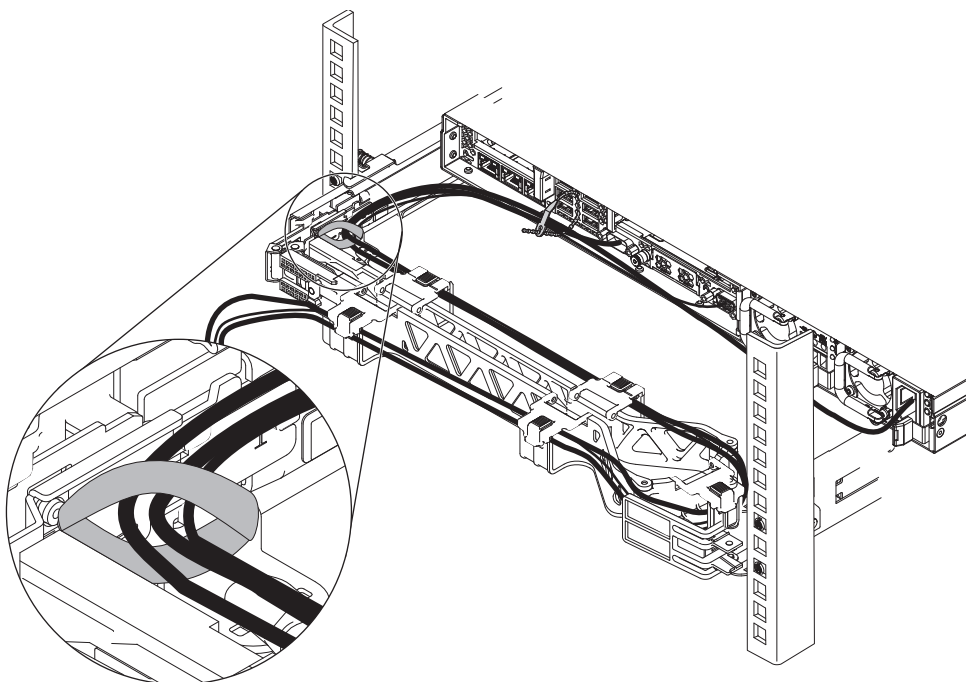

Figure 33. Securing the cables with hook-and-loop fastener strap
7. Secure the cables with the hook-and-loop fastener strap, as shown in Figure 33 on page 32.